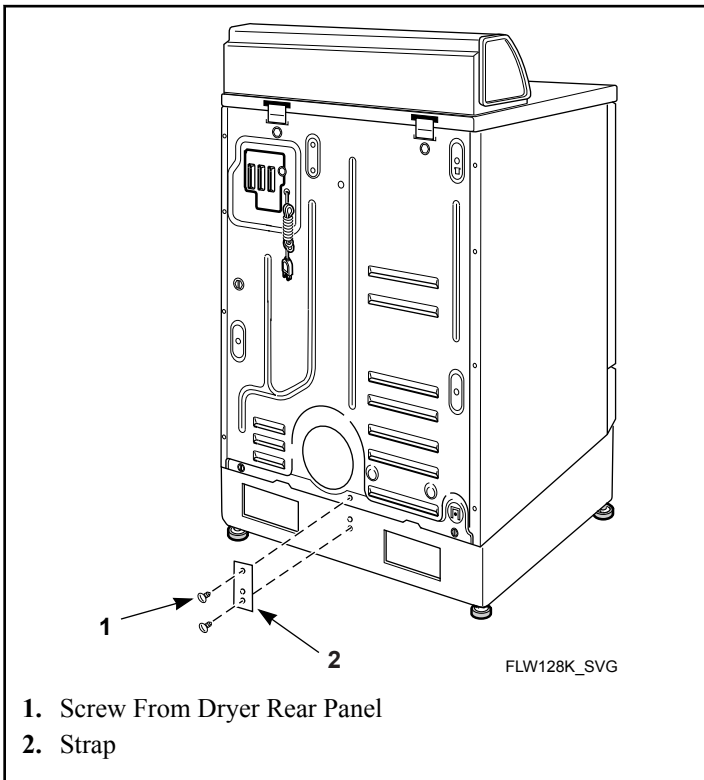

Figure 9
17. Attach strap included in parts bag to dryer cabinet rear panel and to center back of pedestal. Remove one screw from middle of dryer rear panel. Refer to *Figure 9*. Reattach screw with strap using long slot hole. Do not tighten yet. Attach strap to back of pedestal using two screws. Refer to *Figure 9*. Tighten all screws.
14. Attach strap included in parts bag to dryer cabinet rear panel and to center back of pedestal. Remove one screw from middle of dryer rear panel. Refer to *Figure 9* . Reattach screw with strap using long slot hole. Do not tighten yet. Attach strap to back of pedestal using two screws. Refer to *Figure 9* . Tighten all screws.